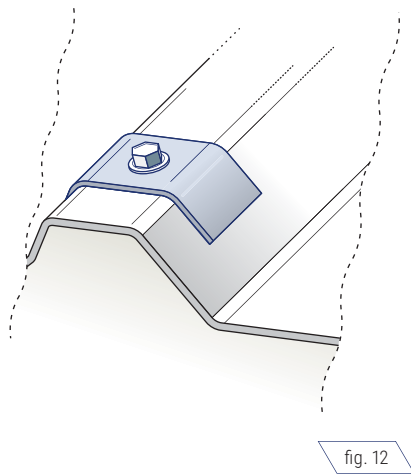

fig. 12
- In order to install the roof panels the calottes are recommended. They distribute pressure forces produced by screws evenly and assure water tightness of works; (fig. 12)